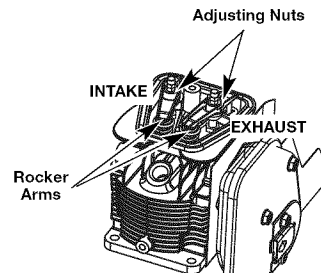

Fig. 30
7. Slide the feeler gauge between the rocker arm and the top of each valve stem. Measure the clearance between the valve stem and rocker arm (Fig. 30). Measure both the intake and exhaust valves.
The recommended clearance for both intake and exhaust is .003 – .006 in. (.076 – .152 mm). Use a standard automotive .005 in. (.127 mm) feeler gauge. The feeler gauge should slide between the rocker arm and valve stem with a slight amount of resistance, without binding. See Figures 30 and 31.
- a. Turn the adjusting nut using a 5/16 inch (8 mm) wrench or nut driver (Fig. 30).